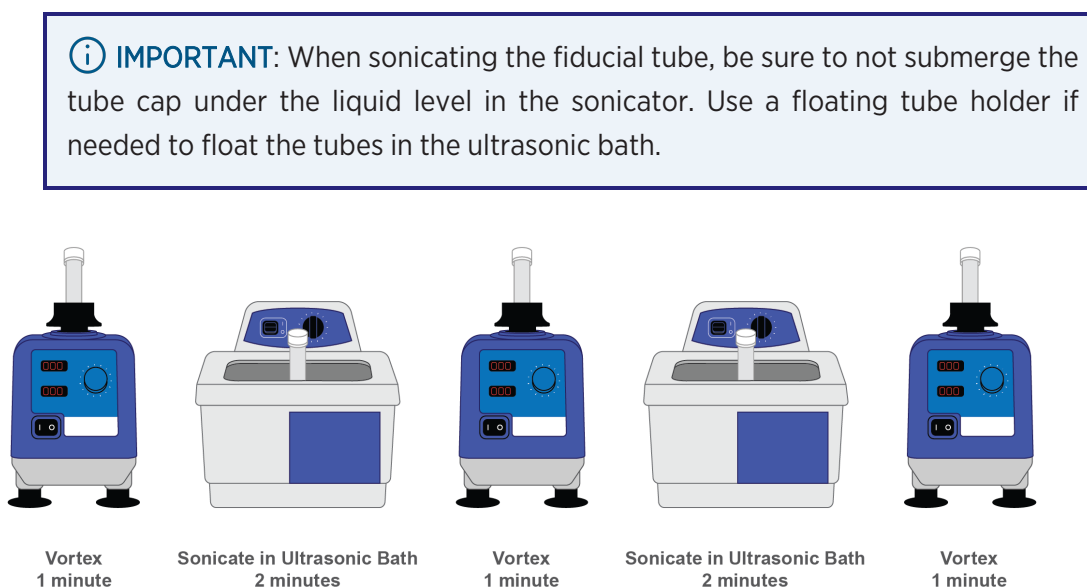

Figure 16: Fiducial preparation
1. Use the graphic below to vortex and sonicate the fiducials prior to use (Figure 16):